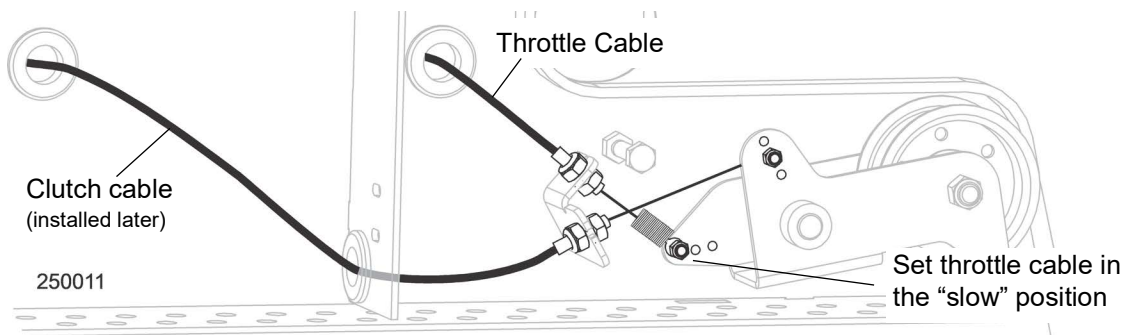

FIG. 3-25
5. Attach the throttle cable to the clutch. See Fig. 3-25.